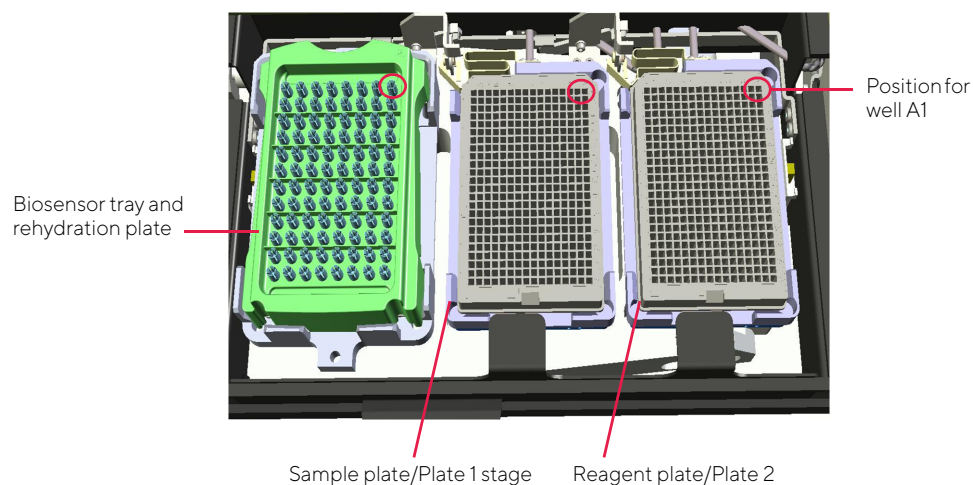

Figure 12-3: Octet[®] RH16 and Octet[®] QK384 Stage Platform
1. Present the sample plate stage (Figure 12-3).